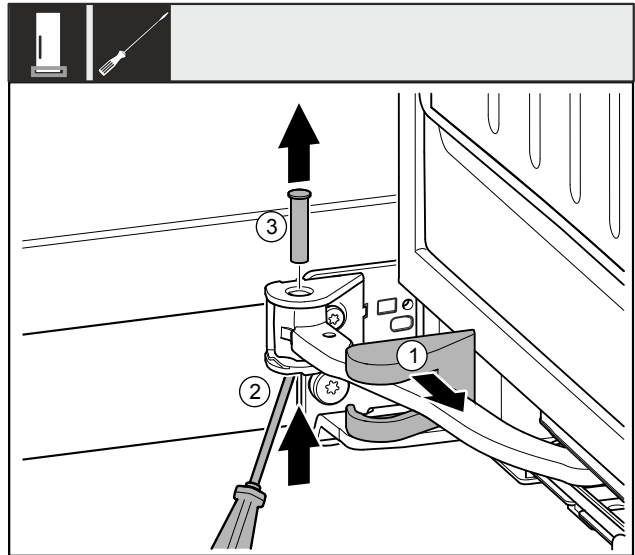

Fig. 10
- Remove the swap bearing block cover Fig. 10 (1) and slide along the joint.
- Use a screwdriver to lift the bolt Fig. 10 (2) from below.
- Pull out the bolt Fig. 10 (3) from above.